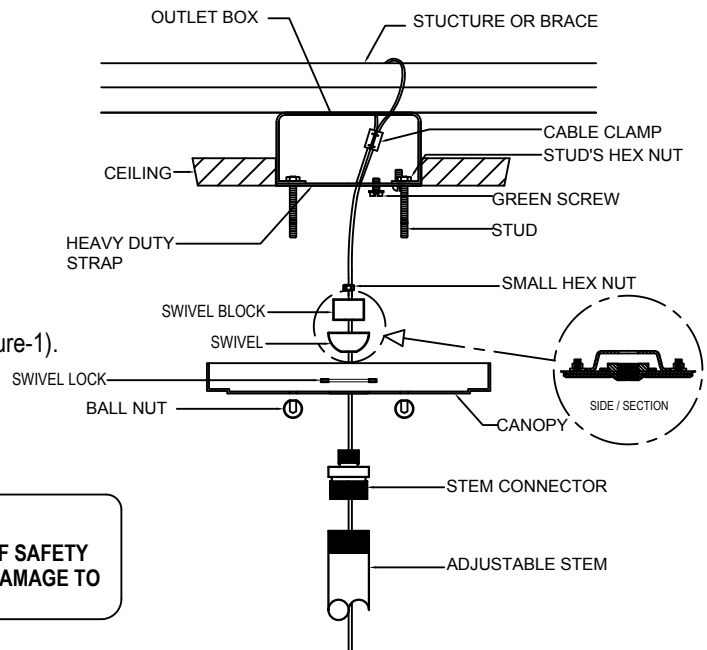

FIGURE-1
1. Attach the SAFETY CABLE to the building structure or brace (See figure-1).